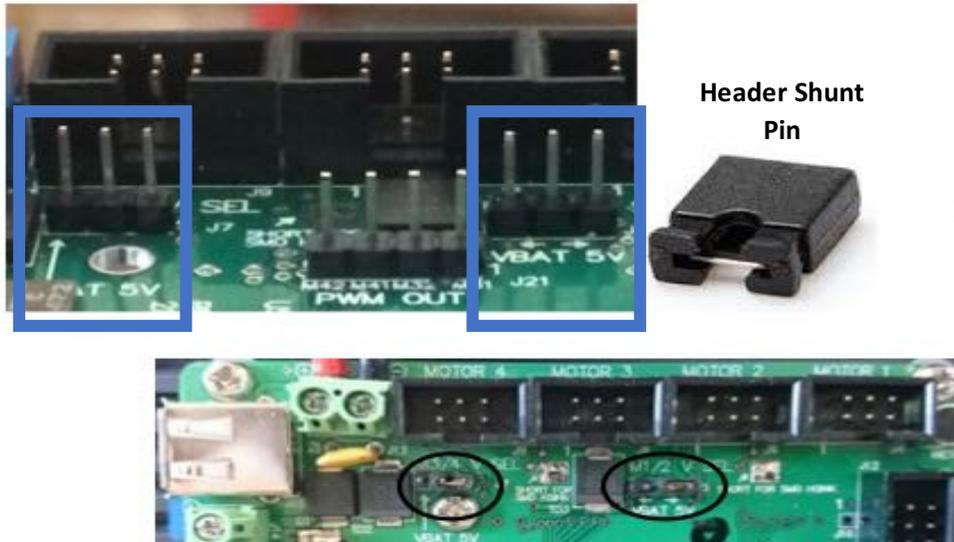

Figure 4.6: Shunt pin header on pin 1 and pin 2 for battery supply or to pin 2 and 3 for 5VDC supply.
- Insert a shunt pin header plug to the voltage select 3 pin header in front of the motor sockets to select the power source to the motors between **5V** or directly to the battery (e.g. **7.2V**). See details in Figure 4.6.